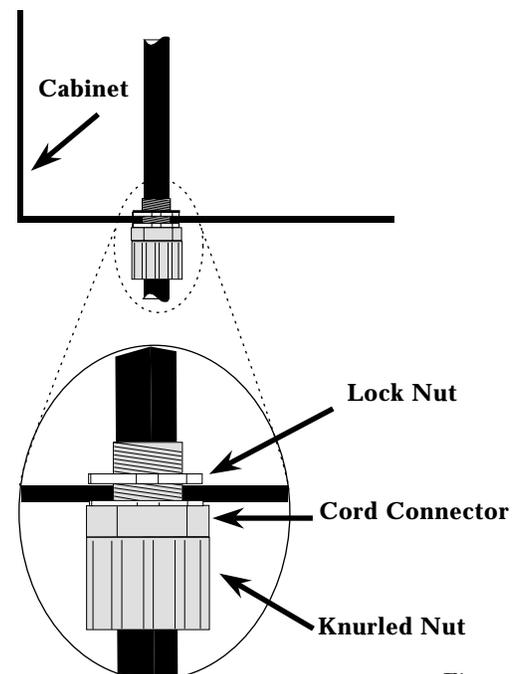

Figure 7
- Step 4** Thread the incoming cable through the provided watertight connector (Figure 7). Do not tighten yet.